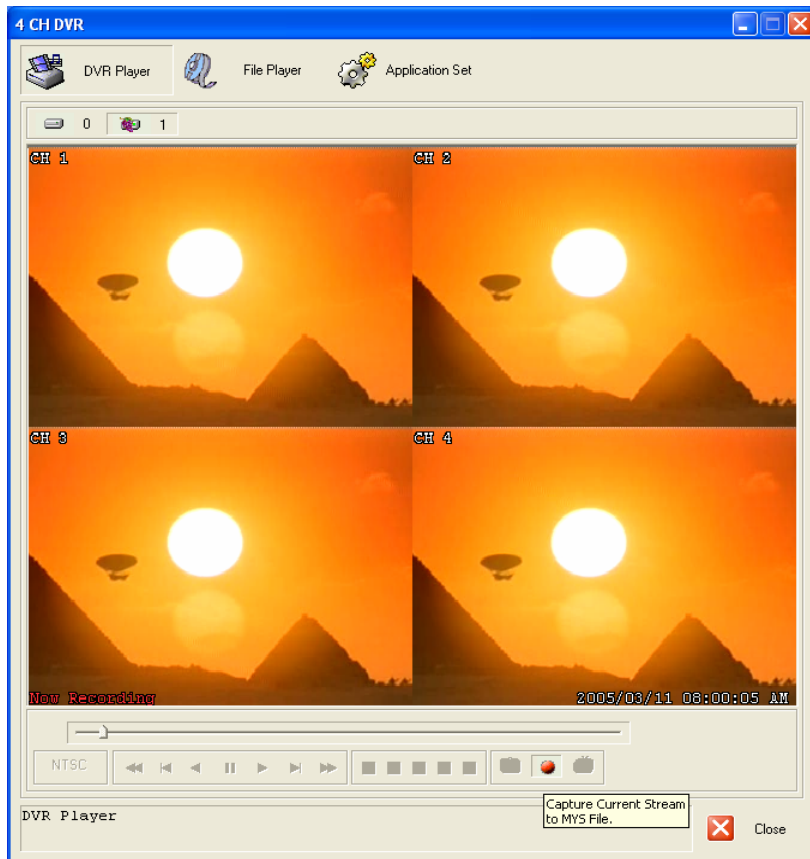
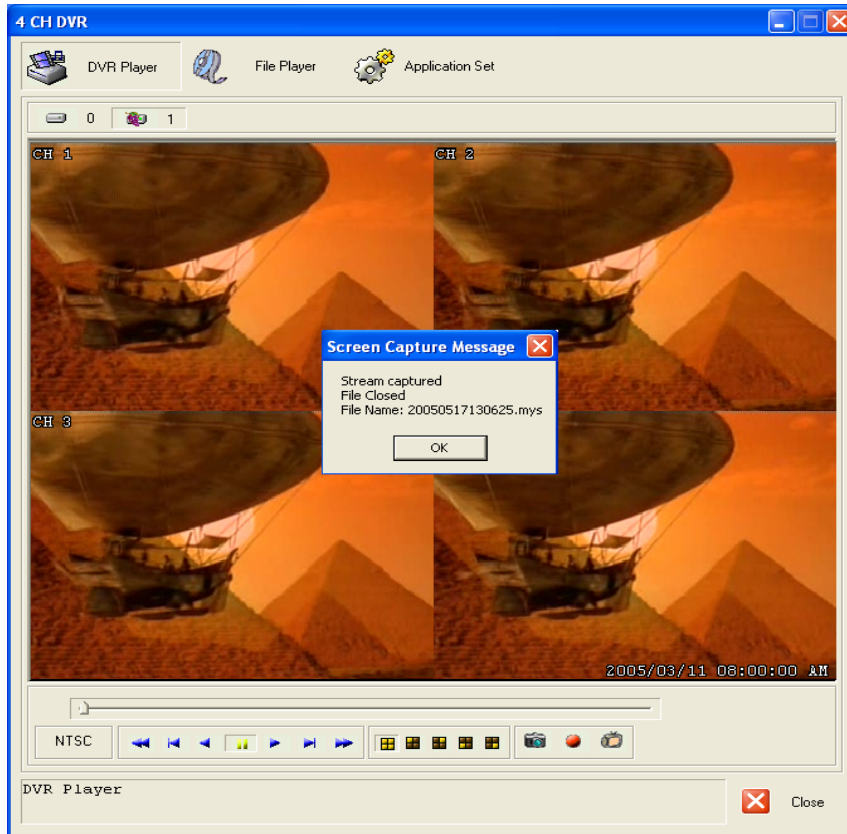

Figure 3
Figure 4
-  : When recording videos onto the PC, first click the “Pause” button, then “Now Recording” button on the graphic shown by “Figure 3”. Click again to stop recording (shown on the graphic by “Figure 4”) and the PC Player Software auto creates a storage content “Capture MYS”.